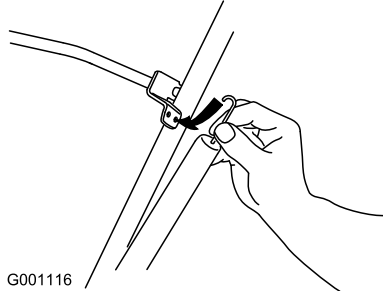

Figure 7
4. Hook the end of the control cable spring into the bottom hole of the control bar (Figure 7).